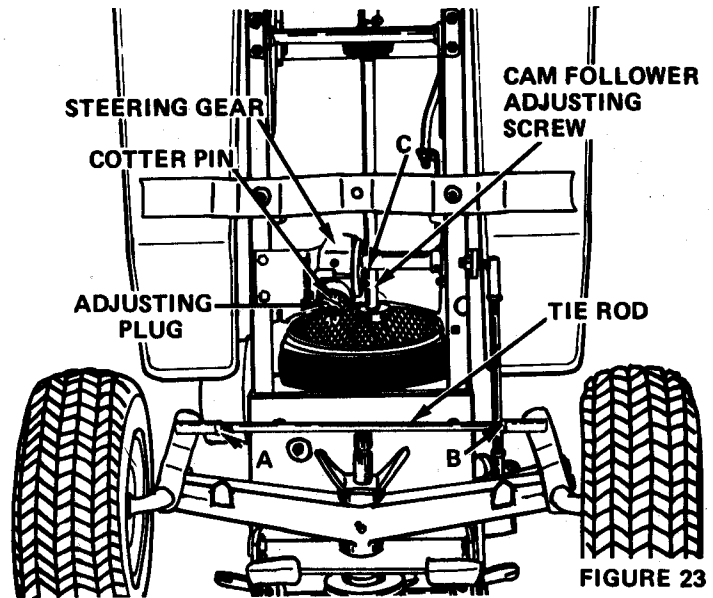

FIGURE 23
1. Loosen jam nuts A and B, Figure 23.
2. Remove cotter pin identified in Figure 23.
3. Loosen jam nut C, Figure 23 and turn adjusting screw out (counter-clockwise) 1½ turns.
4. Tighten adjusting plug, Figure 23, to 10-14 ft. lbs. of torque.
6. Hold jam nut and turn adjusting screw, Figure 23, clockwise (in) until backlash is removed from steering wheel. DO NOT FORCE ADJUSTING SCREW. Torque jam nuts 35-45 ft. lbs. while holding adjusting screw in position.